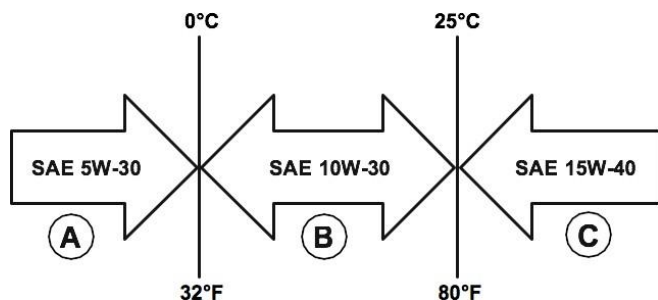

Figure 12: Recommended Oil
1. Only use the engine oil specified in Figure 12.
23. Select the proper engine oil as specified in Figure 12.